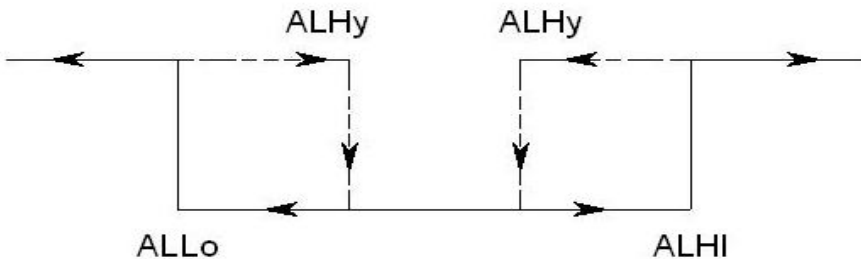

Fig. 4
- \* *The function of " Alarm Low limit value " setting, refer to page 12, Fig. 4.*
- \* *The function of " Alarm Hysteresis value " setting, refer to following Fig. 4.*